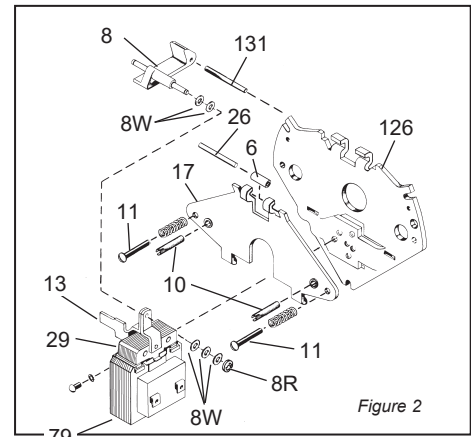

Figure 2
- Refer to Figures 2 and 8. Insert screwdriver between support plate (126) and lever arm (17). Wedge apart and remove bearing pin (26), bearing